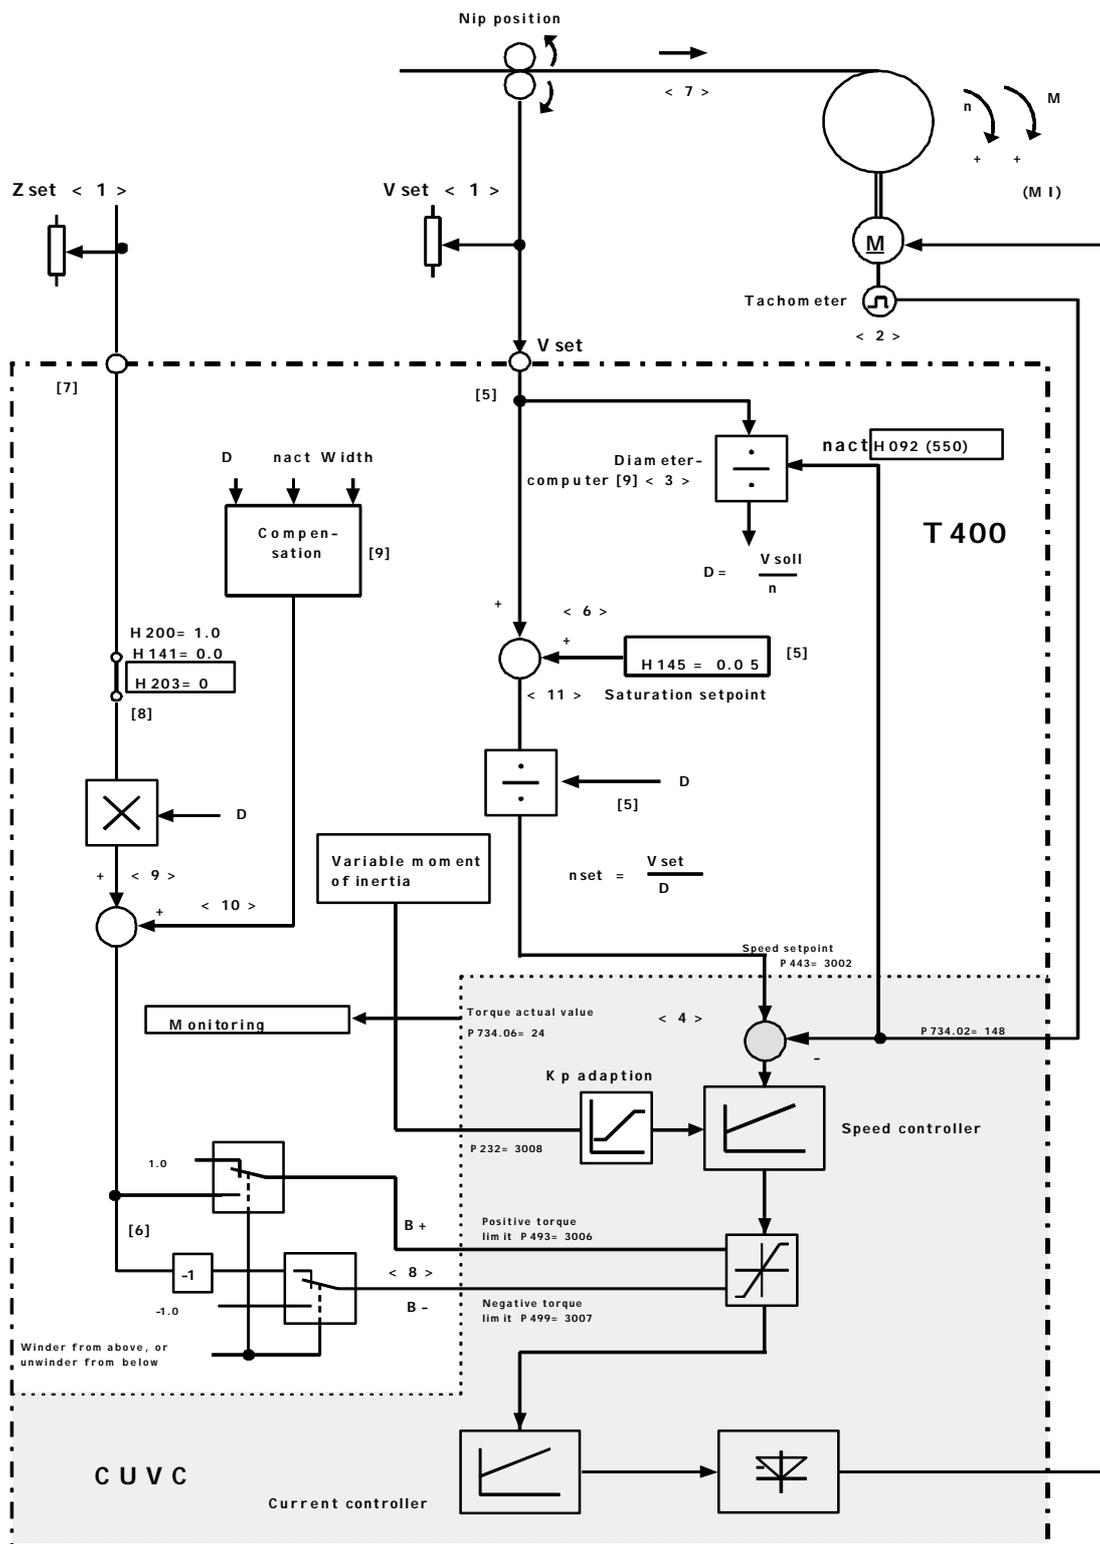

Fig. 4-4 Example for a winder with indirect tension control
**Note** Fig. 4-4 show, shows as an example how a winder can be configured with indirect tension control.